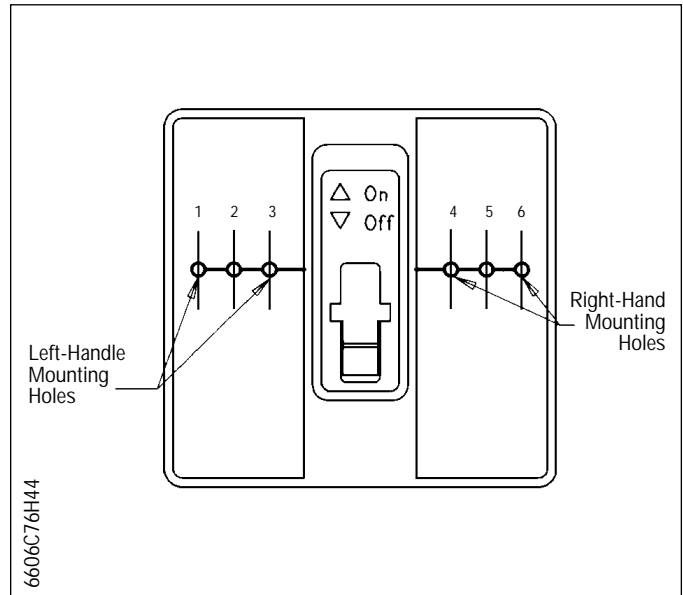

Figure 2-1 Mounting Hole Location
Step 1: Mounting holes are located in the cover under the nameplate (Figure 2-1).